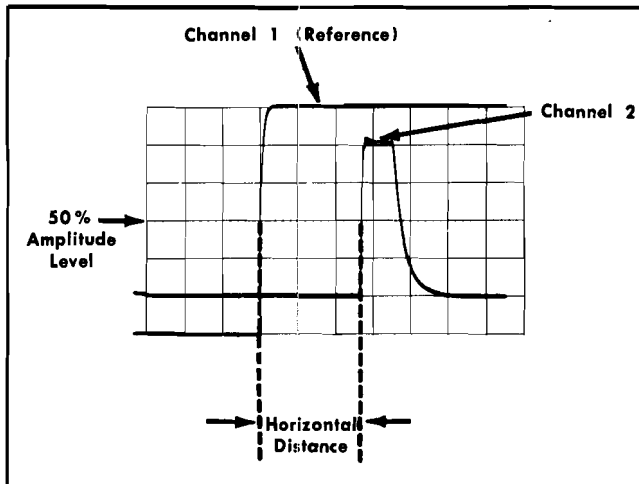

Fig. 2-3. Measuring time delay between pulses.
10. Measure the exact horizontal distance between the reference waveform and the Channel 2 waveform [see Fig. 2-3].
For example, assume that the time/division switch is set to 5 microseconds, the $5\times$ magnifier is on and the horizontal distance between waveforms is 2.7 divisions (see Fig. 2-3).